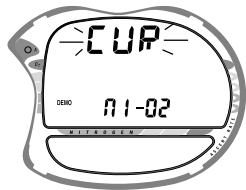

Fig. 78 - Set Demo Calibration
- Press and release the Advance (Front) button to accept the setting and advance to **DEMO: NI-O2** with **CUR** (or **NEW**) flashing (Fig. 78).